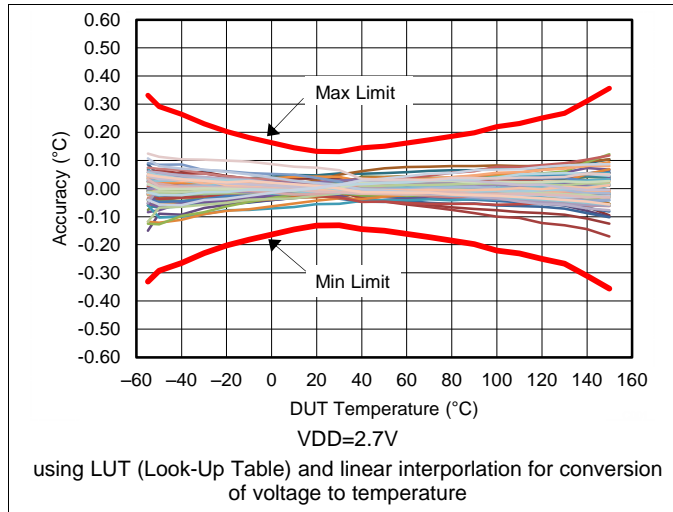

Figure 3. Temperature Accuracy
- (1) Accuracy is defined as the error between the measured and reference output voltages, tabulated in the Conversion Table at the specified conditions of supply voltage and temperature (expressed in °C). These stated accuracy limits are with reference to the values in Electrical Characteristics Temperature Lookup Table \(LUT\), see Accuracy Curve for other temperatures. Accuracy limits do not include load regulation or aging; they assume no DC load.
- (2) The accuracy temperature coefficient specification is given to indicate part to part performance and does not correlate to the limits given in the curve Figure 3.
- (3) In order to meet the matching specification of the LMT70A, two units must be picked from adjacent positions from one tape and reel. If PCB rework is required, involving the LMT70A, then the pair of the LMT70A matched units must be replaced. Matching features (which include, without limitation, electrical matching characteristics of adjacent Components as they are delivered in original packaging from TI) are warranted solely to the extent that the purchaser can demonstrate to TI's satisfaction that the particular Component(s) at issue were adjacent in original packaging as delivered by TI. Customers should be advised that the small size of these Components means they are not individually traceable at the unit level and it may be difficult to establish the original position of the Components once they have been removed from that original packaging as delivered by TI.
- (4) Determined using accelerated operational life testing at 150°C junction temperature; not tested during production.
- (5) Dropout voltage (VDO) is defined as the smallest possible differential voltage measured between V_{TAO} and VDD that causes the temperature error to degrade by 0.02°C .
Over a narrow 10°C temperature range a linear equation will yield very accurate results. It is actually recommended that over a 10°C temperature range linear interpolation be used to calculate the temperature the device is sensing. When this method is used the accuracy minimum and maximum specifications would meet the values given in Figure 3.
Over a wide temperature range the most accurate single equation is a third order transfer function. Using least squares sum method a best fit third order transfer function was generated using the values in Figure 3: